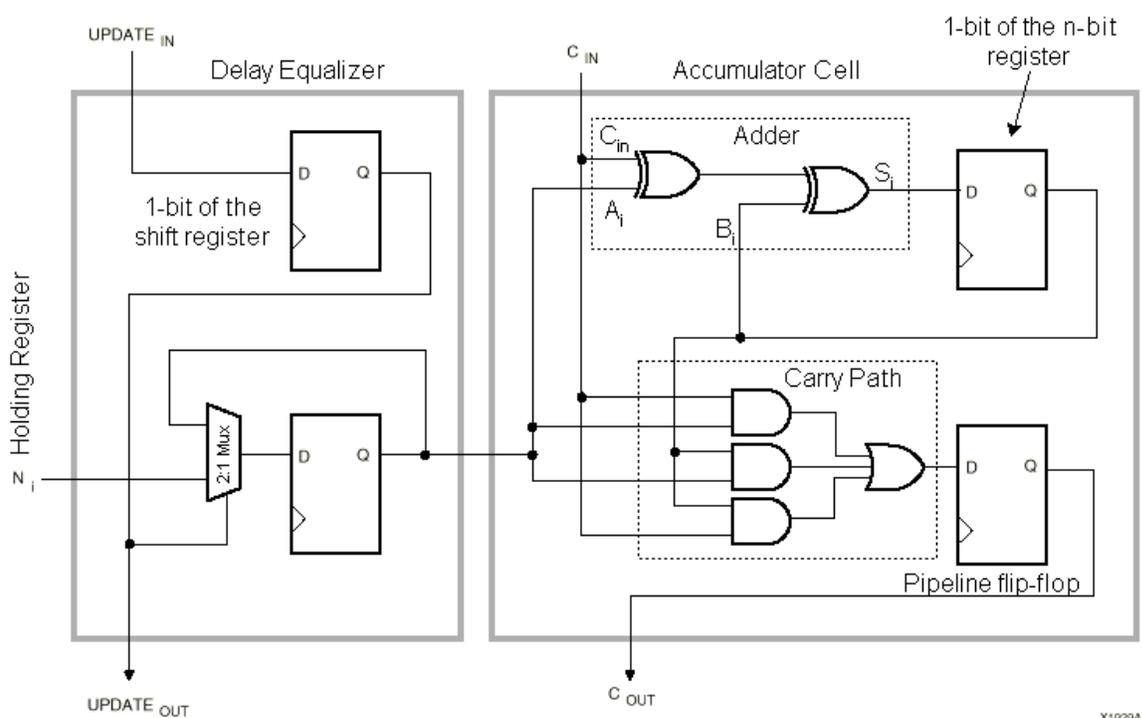

Figure 7: Bit-slice of the Frequency Synthesizer
Figure 7 shows the accumulator cell with its delay equalizer. The accumulator cell is a simple full adder with its output registered and fed back to one of its inputs. A pipeline flip-flop is introduced into the carry path.
The accumulator input that controls the frequency is stored in a register. Individual bits of this holding register are enabled from flip-flops that are connected as a shift register. When the frequency is to be changed, the appropriate number is input to a holding register (see Figure 7), and a single '1' introduced into the shift register. As this '1' propagates through the shift register, individual bits of the holding register are successively updated. This update occurs synchronously with an addition propagating through the pipelined adder.
Exercise 2: Implement in VHDL a pipelined version of the design built in exercise 1. Follow Figure 7 as a guideline.
2. Starting from your full adder design of exercise 1, modify it so that the register is incorporated into the cell (see Figure 7). You should also pipeline your adder by adding a pipeline flip-flop in the carry path.